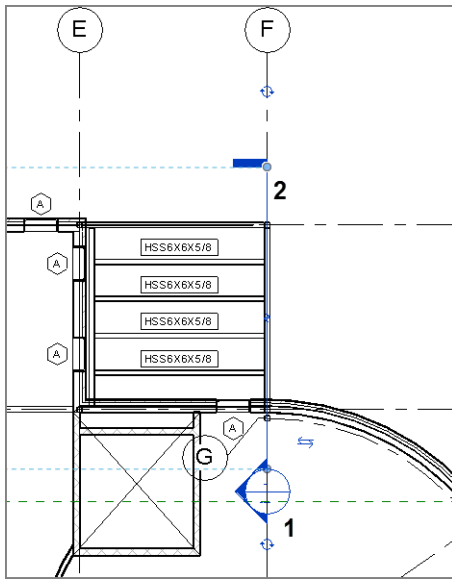

FIGURE 8.47: Cutting a section through the framing
13. Place the section along column line F, as shown in Figure 8.47, starting at point 1 and ending at point 2.